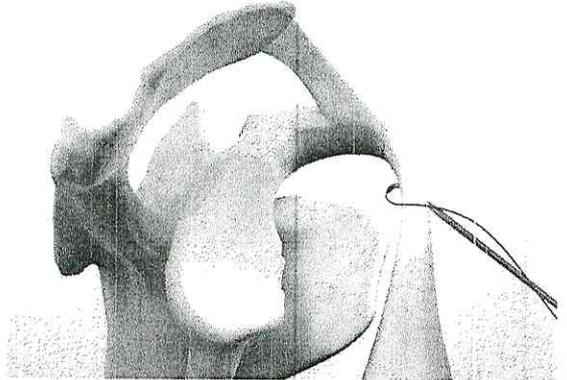

Figure 1b
1b. Through the (S) portal use an ACCU-PASS® suture shuttle (Smith & Nephew) to pass and retrieve a PDS around the conjoined tendon. This will be used to retract the tendon and coracoid distally, after the osteotomy. Clip out of the way using a Kelly forceps (Fig 1b).